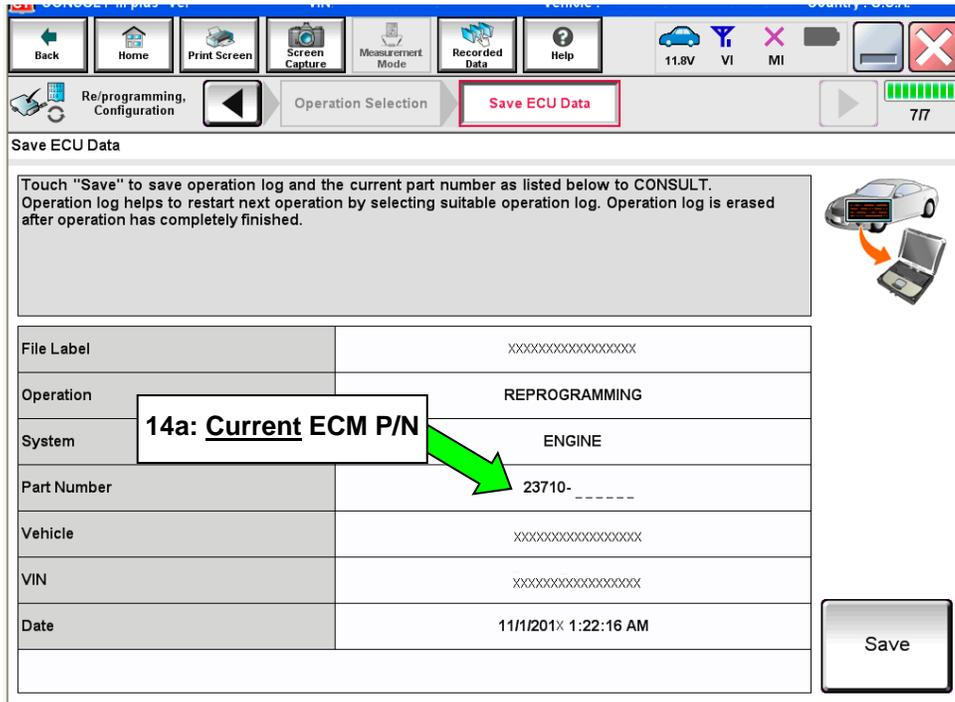

Figure 9
14. When you get to the screen shown in Figure 9, confirm this bulletin applies as follows.